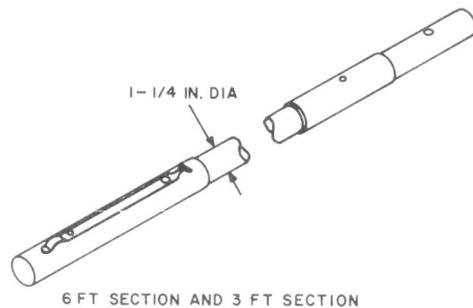

Fig. 5—Fiberglass Tree Pruner Handles
2.08 ♦The fiberglass handles (Fig. 5) are made of light tubular fiberglass, 1-1/4 inches in diameter. They are completely interchangeable with and slightly lighter than the wooden handles. The life of the fiberglass handle is expected to be about twice that of the wooden handle. The new handles are available in the standard 6-foot length and a new 3-foot length. The 3-foot length will facilitate making assembled handles of intermediate lengths.♦